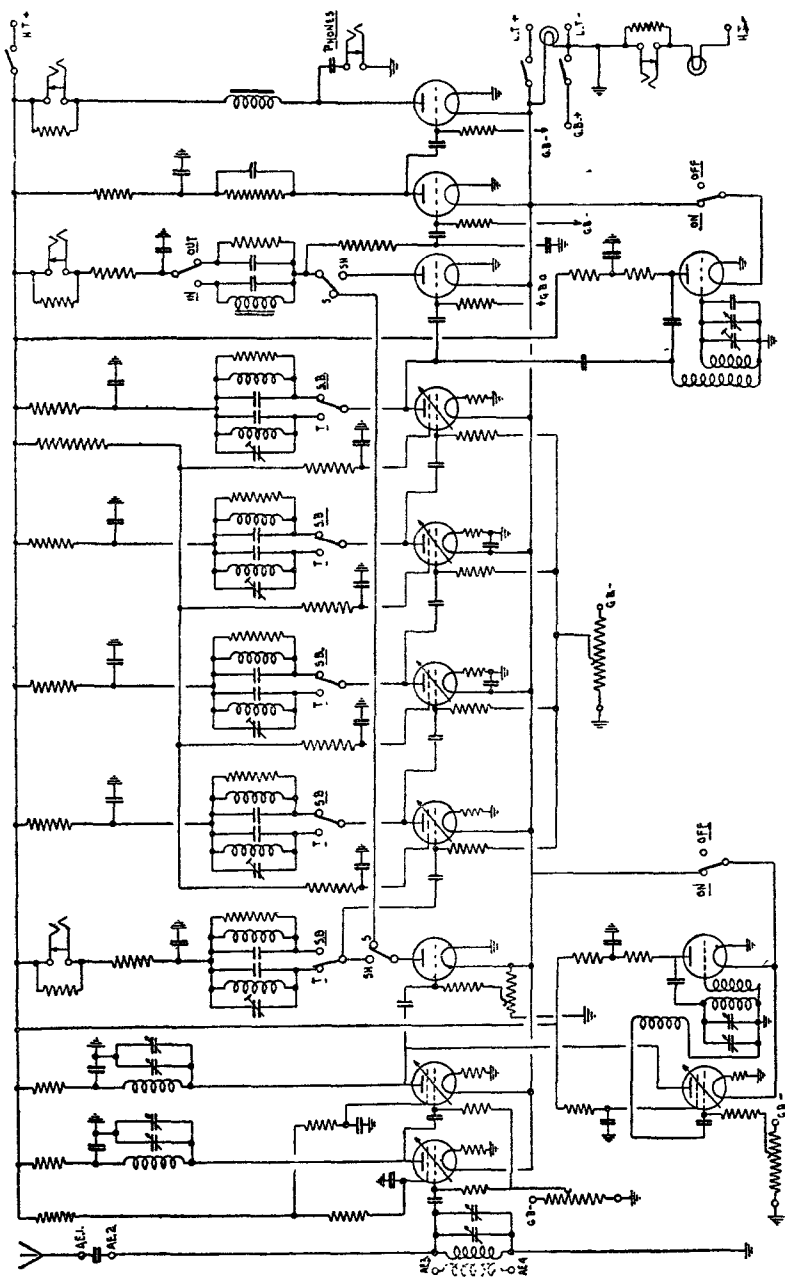

FIG. 79.—Receiver R. 1084.
6. **Circuit.**—A schematic diagram is shown in fig. 78 and a complete circuit diagram in fig. 79:—